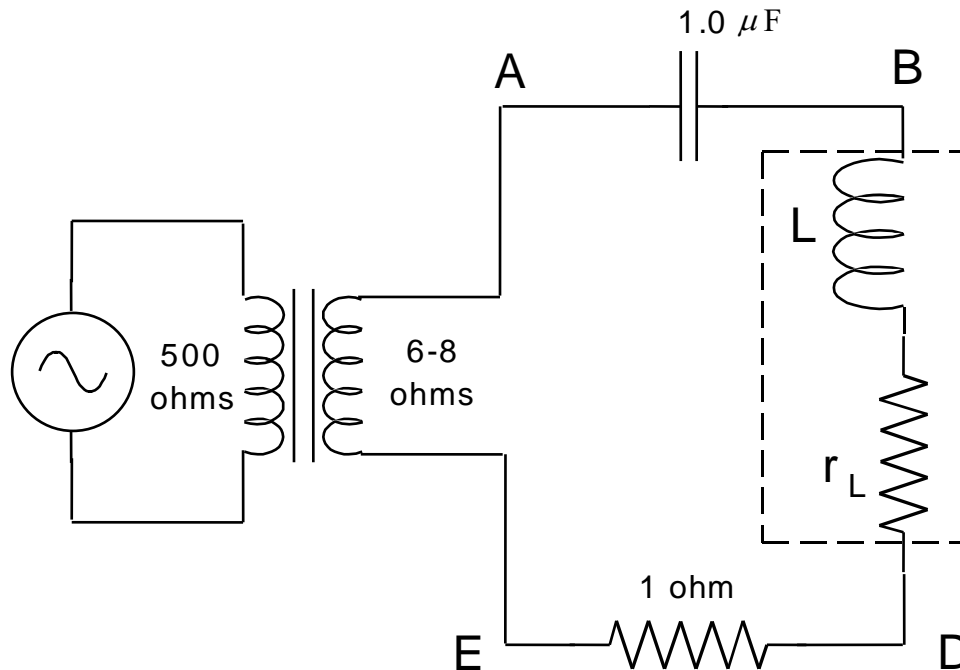

Figure 5
**D1: Location of resonance.** Assemble the circuit in figure 5.